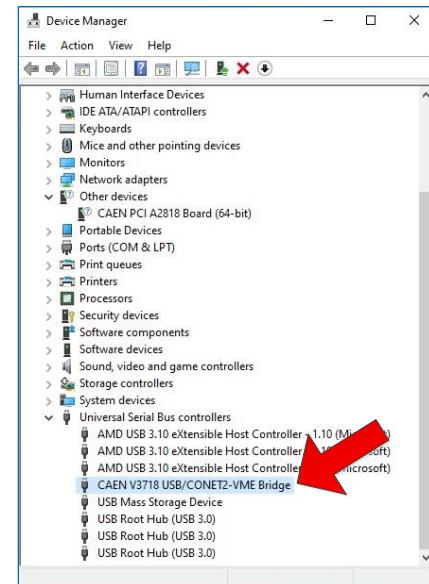

Fig. 11.6: USB Driver Installation: step
6. Check for the new hardware in the Universal Serial Bus controllers list of the Device Manager (Fig. 11.6).